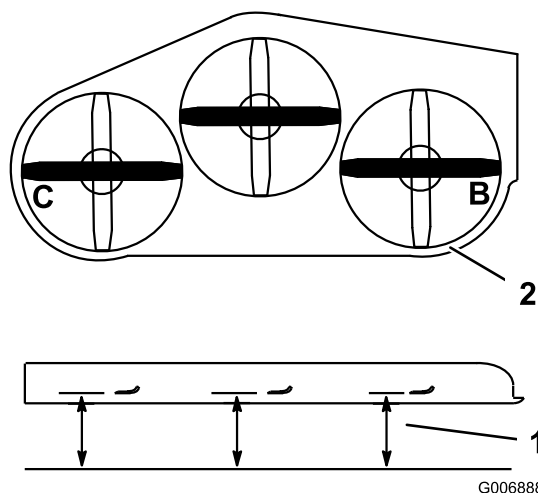

Figure 93
4. Measure at the **B** and **C** locations from a level surface to the cutting edge of blade tips (Figure 93).